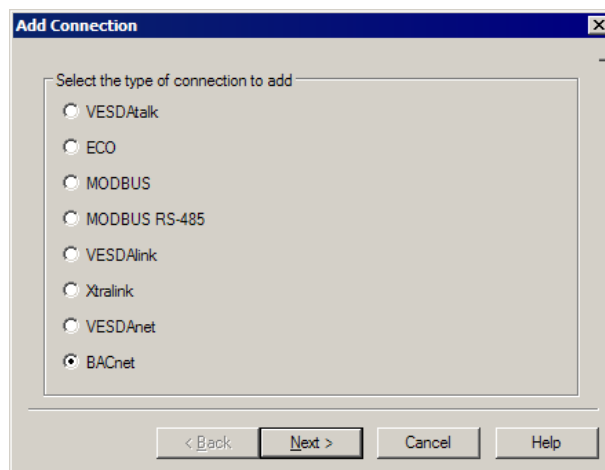

Figure 5-2: Add Connection
3. Select BACnet from the Add Connection dialog box (Figure 5-2).
2. Select BACnet from the Add Connection dialog box (Figure 5-2).
2. Select VESDAnet from the Add Connection dialog box (Figure 5-2).